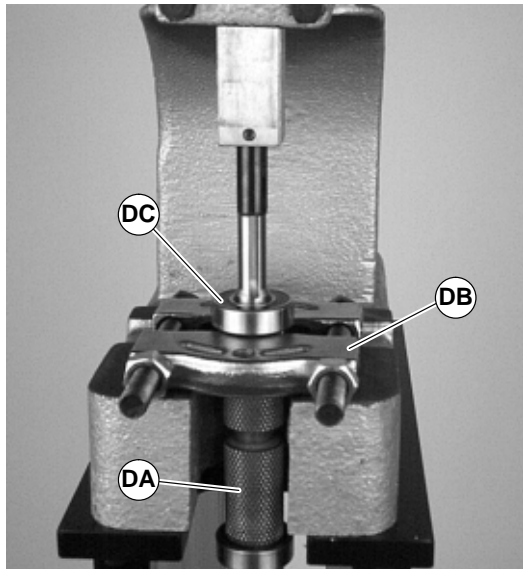

Figure 47
1. Position the drive pulley (DA of Figure 47) in a standard bearing separator (DB) as shown.